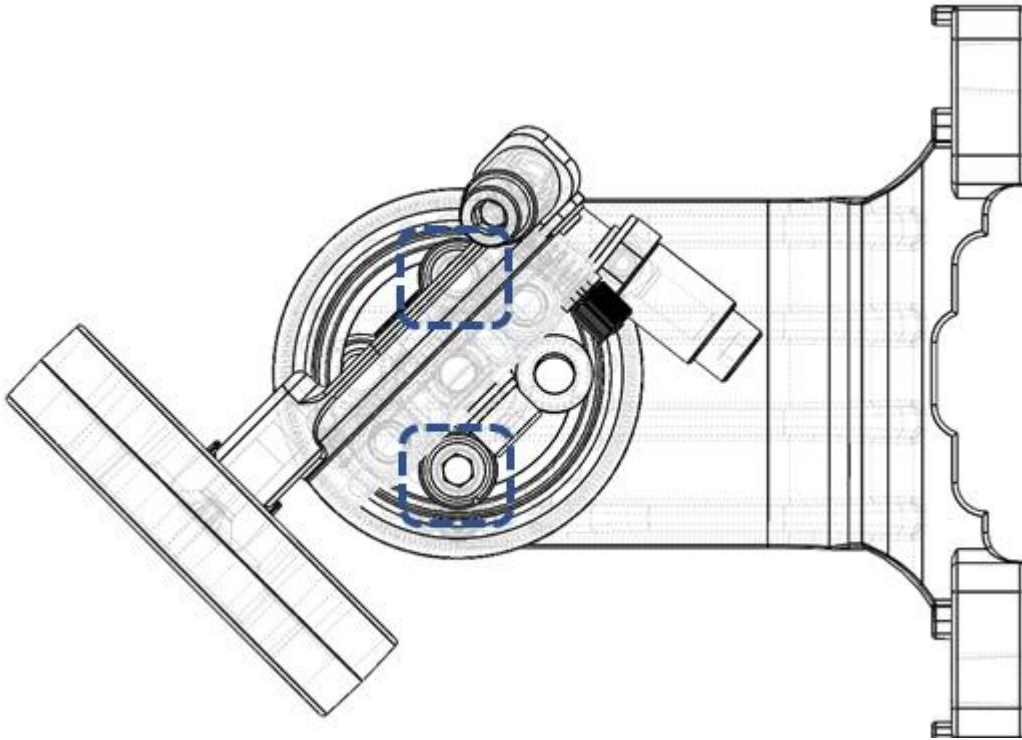
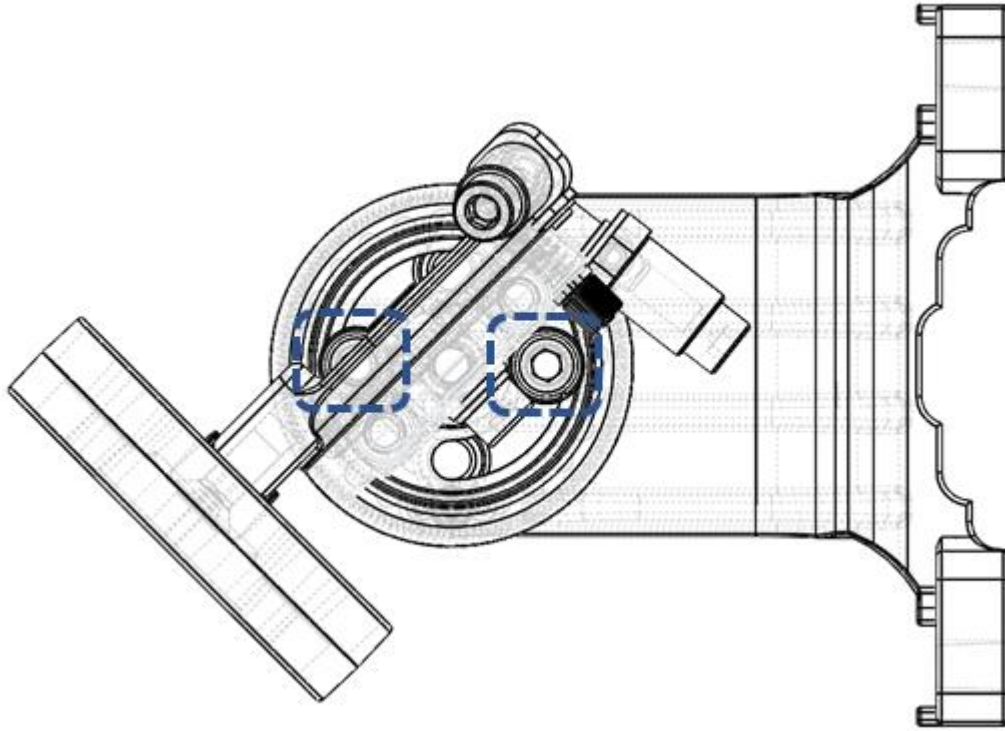

Figure 37: Azimuth Screws - Top View (Azimuth 45° to the Right)
Figure 39: Azimuth Screws in New Placement – Top View (Azimuth 45° to the Right)
3. Insert the Azimuth Screws in the holes opposite their previous locations. For example, if you are adjusting the azimuth to the left, move the Azimuth Screw to the left of the device from the left hole to the right hole and move the Azimuth Screw to the right of the device from the right hole to the left hole, as shown in **Figure 37** and **Figure 39**. This will place the azimuth at an angle of 45° to the left or 45° to the right.